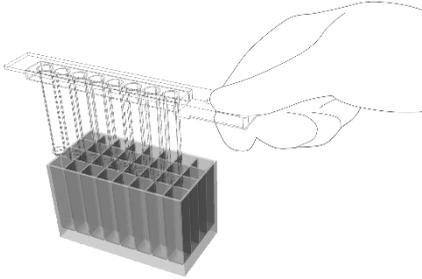

Figure 4. Mixing of content in **column 1** using the rod cover only.
- Using only the rod cover, mix the contents of **column 1** by slowly lifting the rod cover to the top of the solution and returning the rod cover to the bottom of the wells. Continue to mix the contents 4 times per minute for 15 minutes (Figure 4).